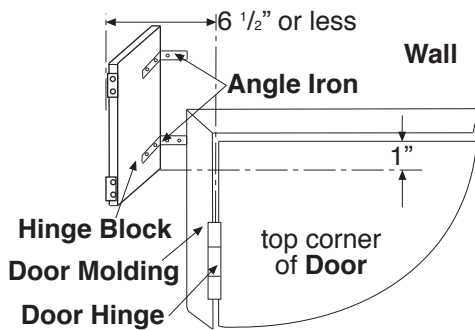

Fig 2 Front view around top corner of **Door**
3. Attach the **Hinge Block** to the wall with two **Angle Irons** as shown in fig 2. The **Hinge Block** should be placed as close as possible to the **Door Molding**. The bottom edge of the **Block** should be 1" to 2" lower than the top edge of the **Door**. The top edge of the **Block** should be at least 2" lower than the ceiling. The distance between the hinged edge of the **Door** and the **Hinge Knuckles** on the **Hinge Block** should not exceed 6 1/2" (see fig 5a and 5b). This will allow the **Door** to swing fully open after **Swinging Door Top Treatment Kit** is installed. Make sure the **Hinge Block** is vertical, so the **Cornice** is horizontal.